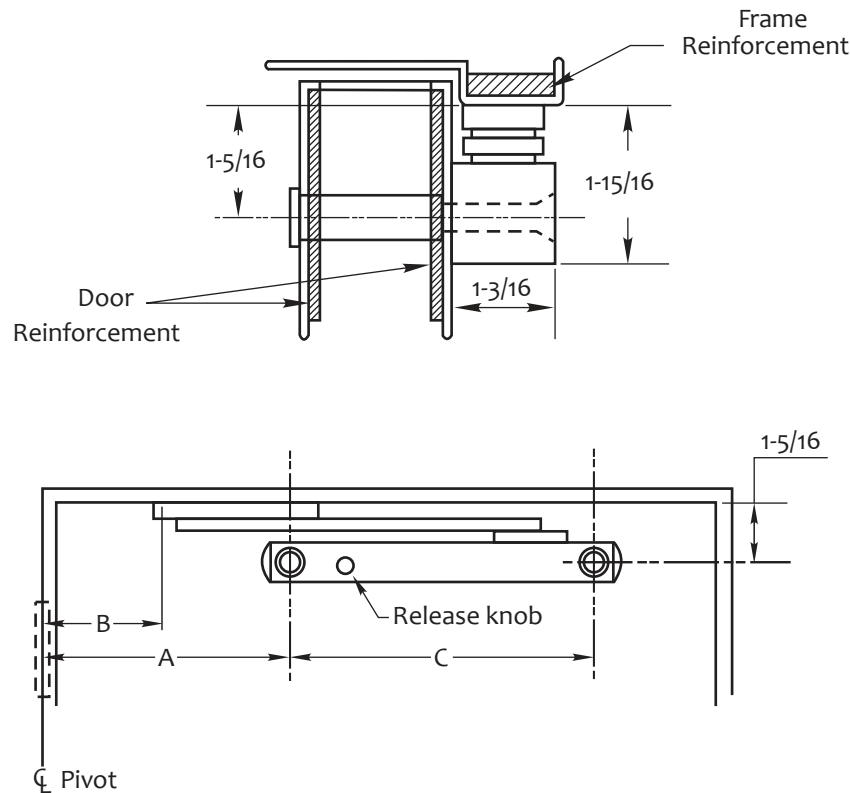

Figure 3 Channel screw hole positioning
2. Drill and install channel (Figure 3)